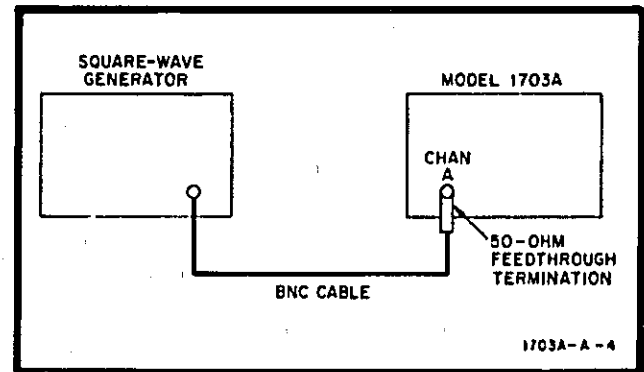

Figure 5-3. Risetime Test Setup
- a. Connect instruments as shown in figure 5-3.